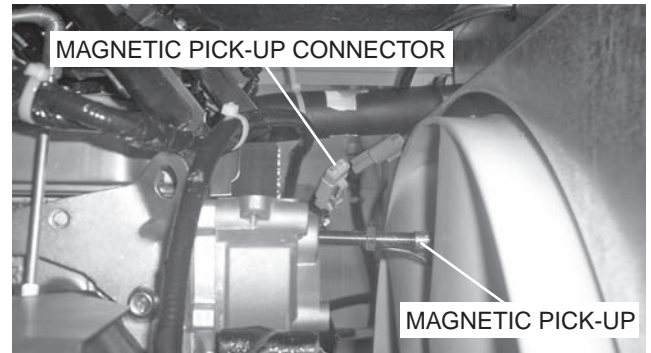

Figure 11
1. Remove the cam sensor from the middle of the timing cover (Figure 11).